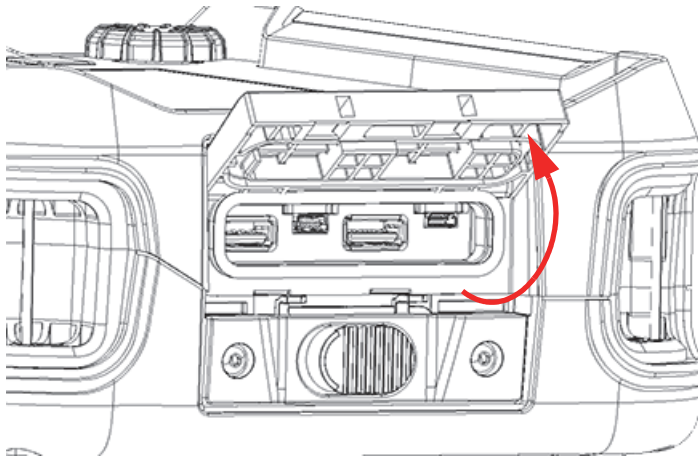

Figure 3-8 Data port—cover open
2. Swing up the cover to its fully open position (Figure 3-8 on page 44).